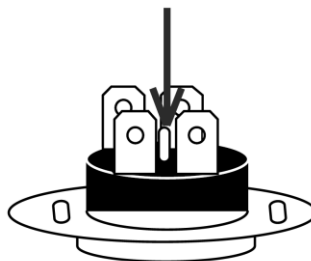

Fig 6
- Press the button located in the center of the thermal switch (round shape, near the heating element) until you hear a click, see Fig. 6